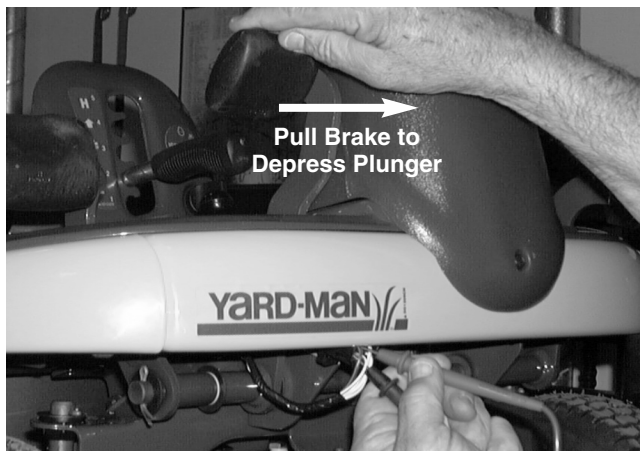

FIGURE 10.
–There will be **NO CONTINUITY**. See figure 10.